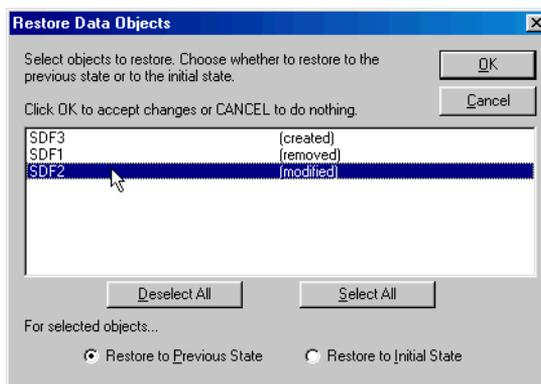

Figure 2.7: *The Restore Data Objects dialog.*
1. Click the **Restore Data Objects** button  on the **Standard** toolbar or choose **Edit ► Restore Data Objects** from the main menu. The **Restore Data Objects** dialog opens, as shown in Figure 2.7.